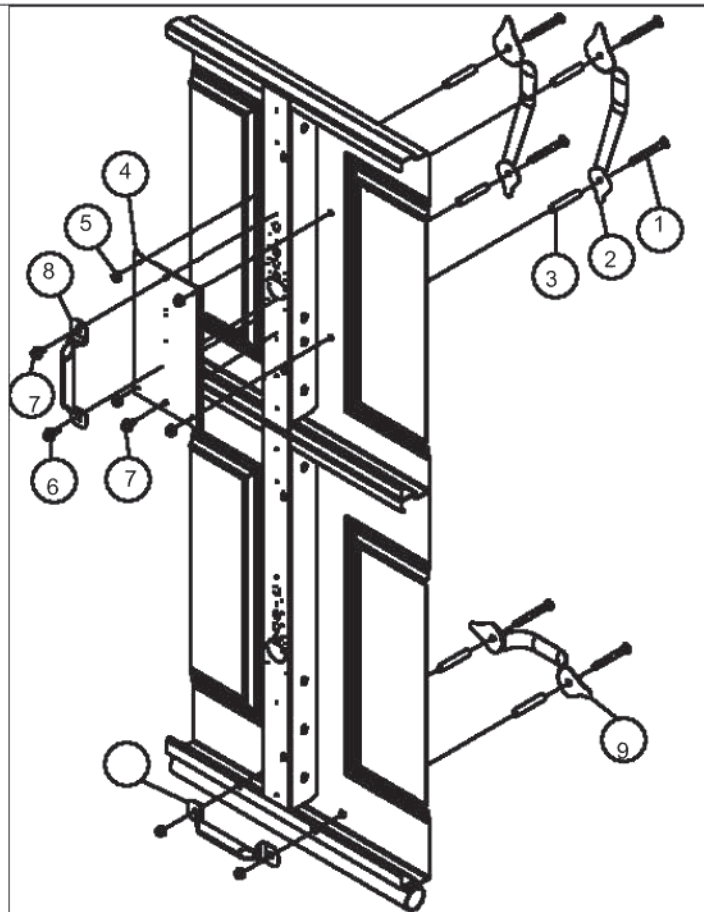

FIG. 8-A
**Step 8-8:** If you have a single handle as shown in FIG 8-B, skip to Step 8-7. Attach the handle backer plate (4) to the stile with two 3/4" hex head sheet metal screws (7) going into the center stile. The top sheet metal screw will also pass through the top hole of the roll bar handle (8). (FIG 8-A)
**Step 8-9:** Slide the black headed 1/4" carriage bolt (1) through the vertical spade handle (2), the handle spacer (3), the front of the section, the back of the stile or the handle backer plate (7), roll bar handle (8 if applicable) and finally secure with 1/4" flange nut (5). (FIG. 8-A or FIG. 8-B)
**Step 8-10:** Take a 3/4" hex head self-tapping screw (6) and drill it through the open hole of the roll bar handle (8) into the stile by passing through the hole in the handle backer plate (4 if applicable.) (FIG. 8-A or FIG. 8-B)